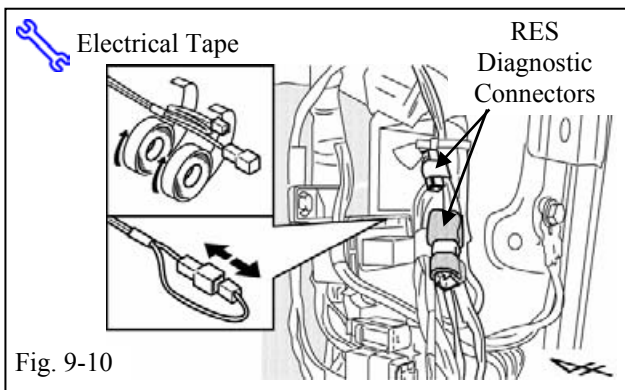

Fig. 9-10
- (l) After a Successful Registration disconnect the V4 Harness's White 1P Connectors (Fig. 9-10)
- (m) Secure the V4 Harness and 1P Connectors with Electrical Tape as shown. (Fig. 9-10)